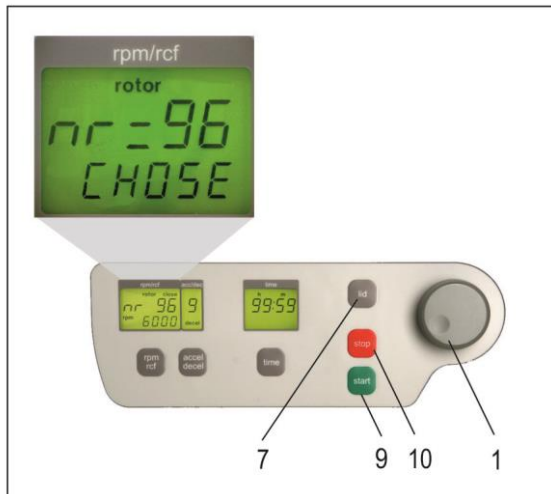

Figure 3
With the potentiometer (1), choose the used rotor now, (see Figure 3). To select the data in the unit, please press the "start" (9) key.